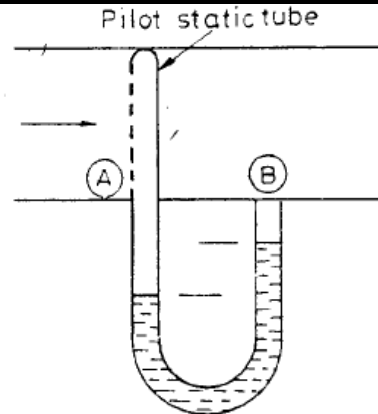

Fig. 6
**IES-16. Ans. (c)** Fig. 6 shows a Pitot static tube used for measuring fluid velocity in a pipe and connected through points A and B to a differential manometer.